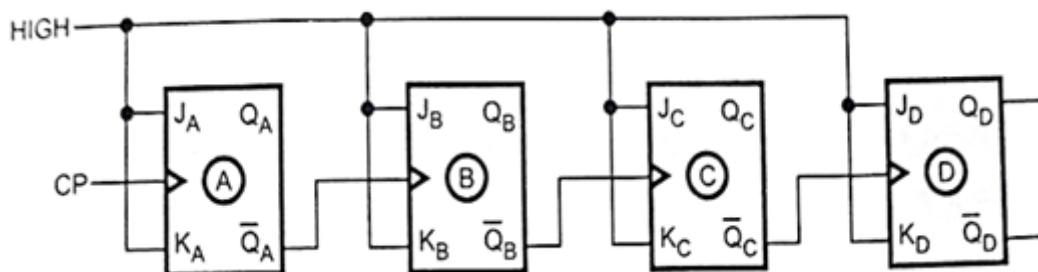

Figure 3.7: Logic diagram of 4-stage positive edge triggered ripple counter.
- Figure 3.7 shows the 4-stage asynchronous counter with positive edge triggered flip-flops.